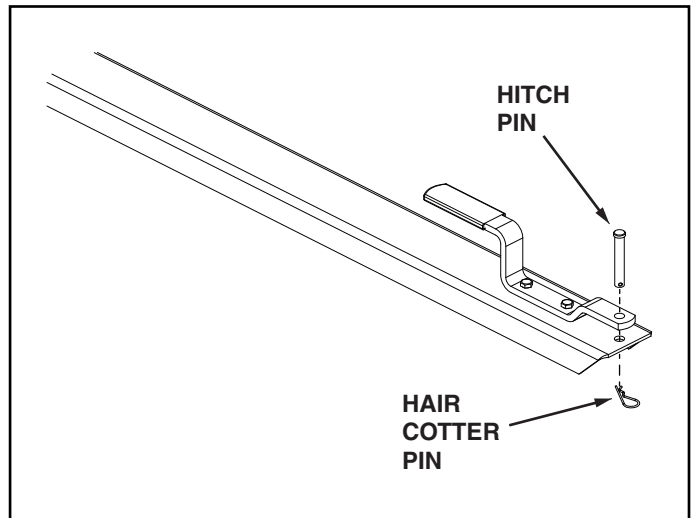

FIGURE 6
- Secure the hitch pin to the hitch bracket and tongue with the hair cotter pin. See figure 6.